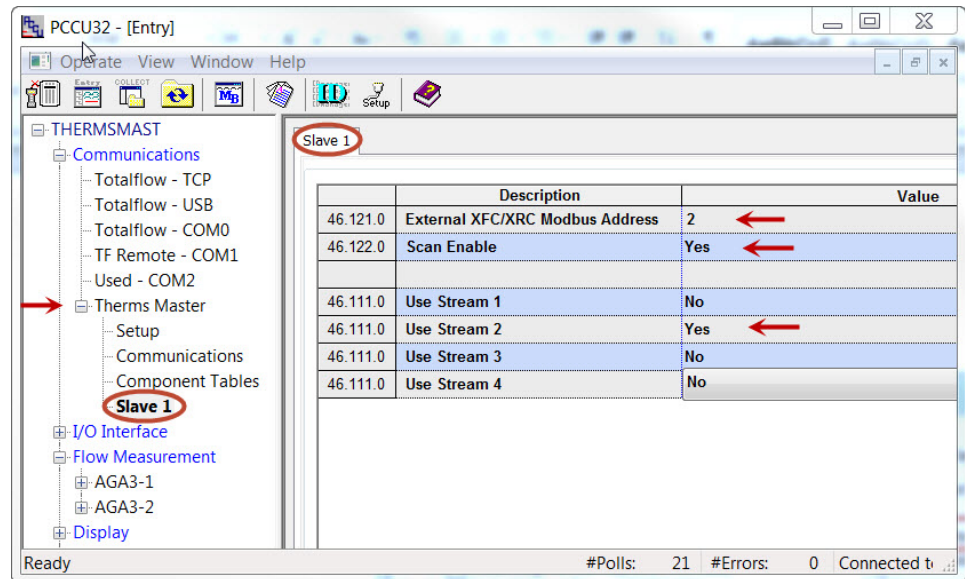

Figure 28. Configure Therms Master's Slave 1
- 1) Go to (Node ID) > Communications > Therms Master > Slave1 > Slave 1 tab (see Figure 28).